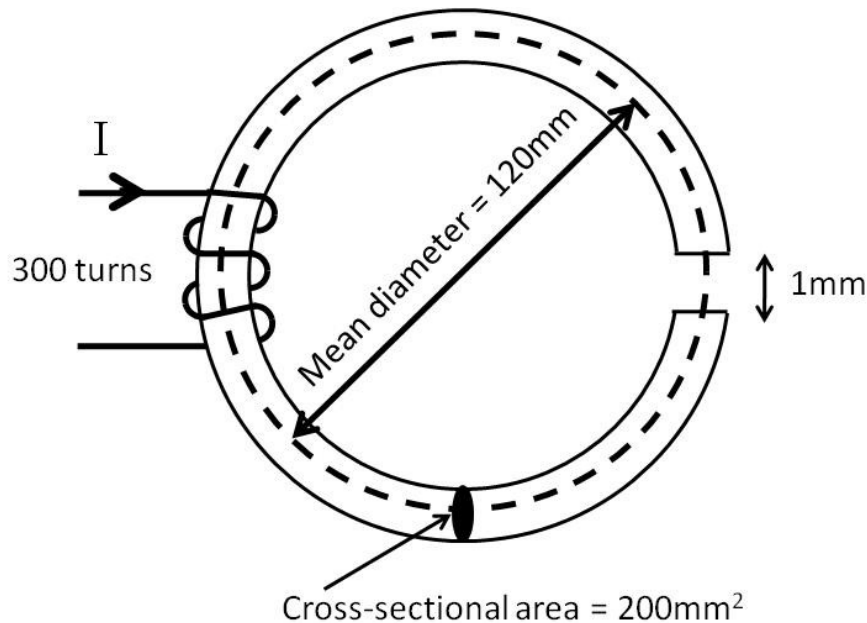

Figure 2.1 Inductor dimensions and coil details
- a. Listing any assumptions that you make, draw an equivalent circuit for the transformer including numerical values for all impedances. The transformer secondary impedance and the load should be referred to the primary side. (4)
- b. Calculate the magnitude and phase of the no-load current drawn by the transformer when the secondary load is disconnected. (3)
- c. Calculate the transformer core losses when the secondary load is disconnected. (1)
- vi) Real component of the output power and the transformer efficiency. (12)
2. Figure 2.1 shows a schematic of an inductor which is based on a circular core of mean diameter 120mm, cross-sectional area of 200mm² and a relative magnetic permeability of 600. The core includes a 1mm long air gap which has the same 200mm² cross-sectional area. The inductor is equipped with a coil with 300 series turns.